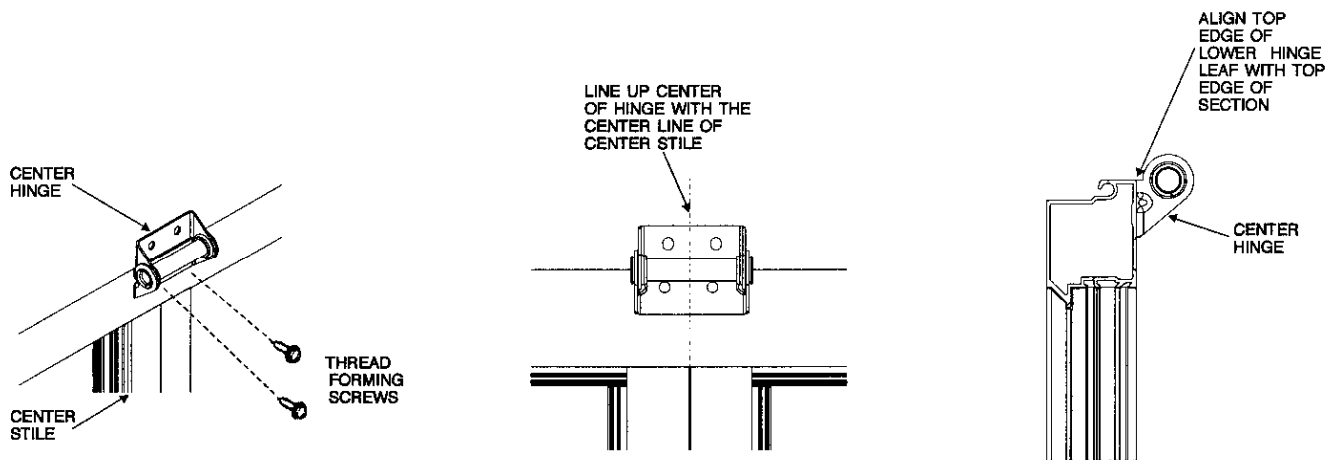

Figure 3A
4. Attach lower leaf of the center hinge to the top of the section using self drilling screws. See Figure 3A for proper alignment and attachment.